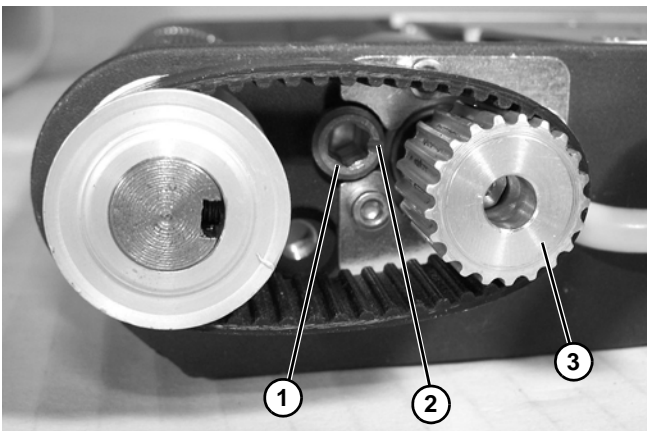
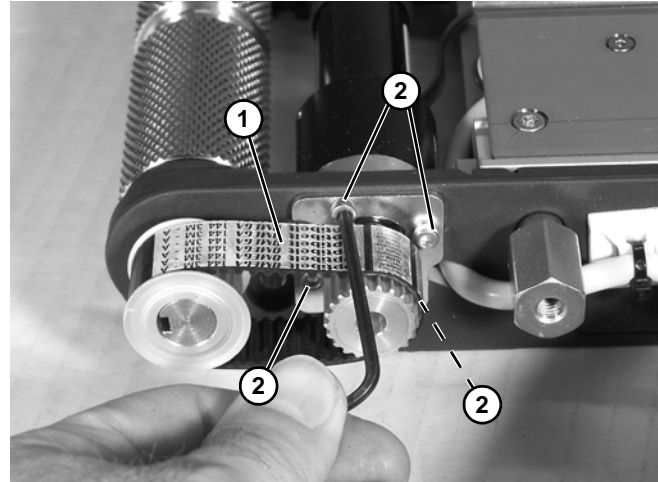

Figure 63
Figure 64
5. Tighten timing belt tension cam (**Figure 63, item 1**), making certain that pointer (**Figure 63, item 2**) on cam is pointing towards the motor drive spindle (**Figure 63, item 2**).
6. Rotate tension cam (**Figure 63, item 1**) to obtain 1/8 - 1/4" belt deflection at center of belt (**Figure 64, item 1**) with approximately 3-5 in-lb of pressure. Tighten four clamp plate screws (**Figure 64, item 2**) to 15 in-lb (1.6 Nm) to secure position.